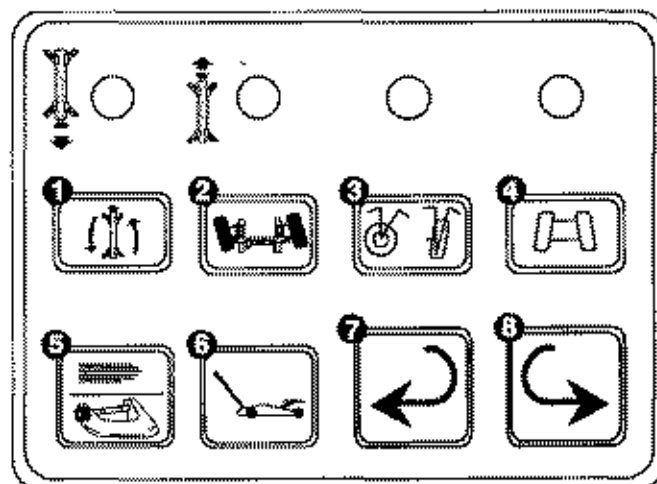

Figure 1-5
The wheel unit keypad consists of eight (8) keys used for alignment control at the wheel unit (see Figure 1-5).